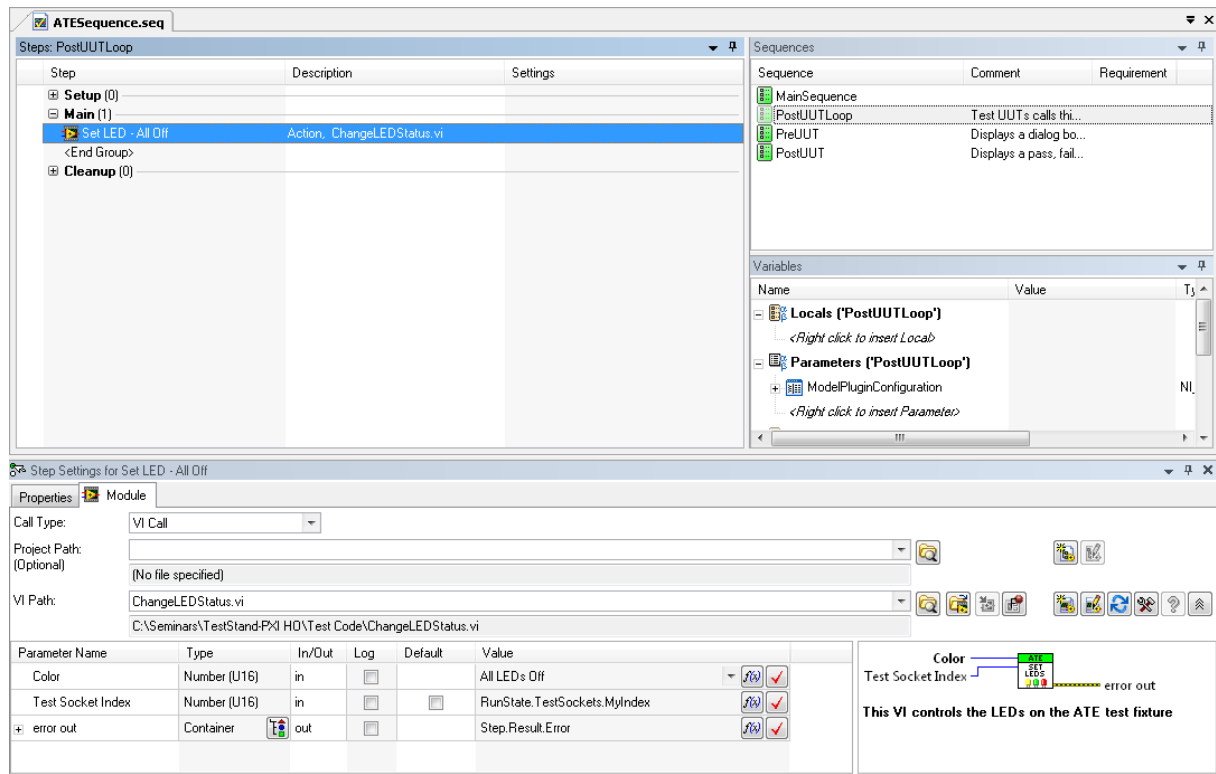

Figure 5-8. The Completed PostUUTLoop Callback Sequence
11. Verify that your PostUUTLoop sequence matches Figure 5-8.